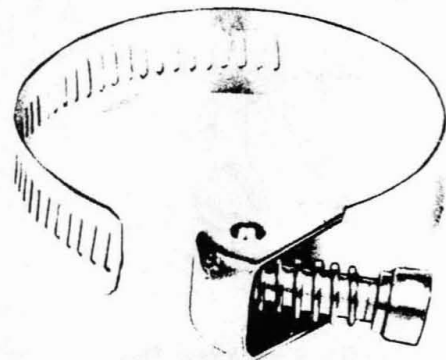

Fig. 3—C Sealing Clamp for F Pressure Flange
2.04 Two C sealing clamps (Fig. 3) are required for installing the F pressure flange and must be ordered separately.